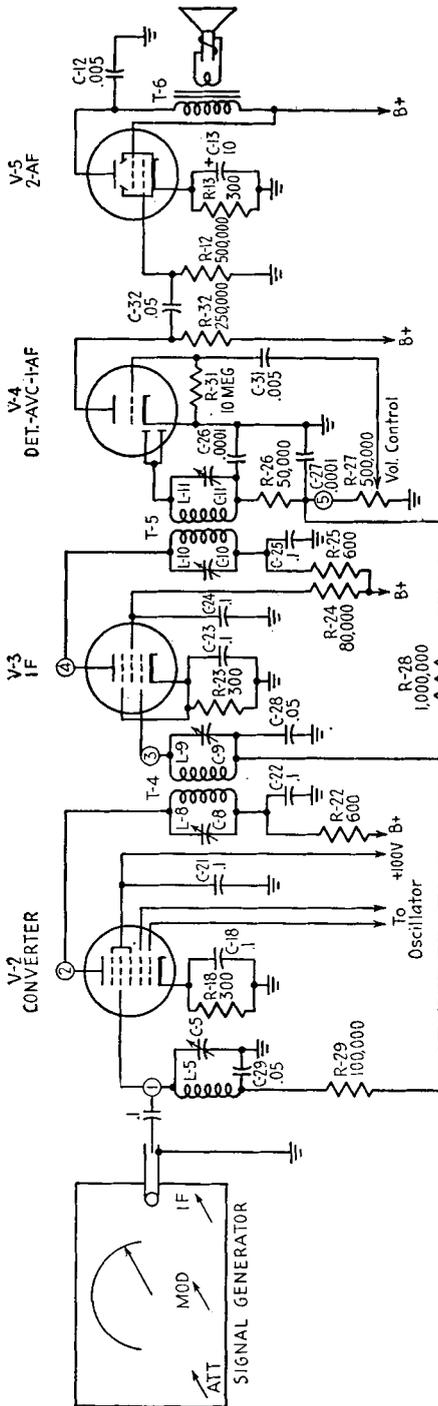

Fig. 13-22. Signal check for locating trouble in an IF amplifier.
The test oscillator, receiver, and output meter are connected as shown in Fig. 13-22. The signal generator is adjusted for modulated output on the IF band. The receiver is adjusted for maximum volume, minimum bass response, and maximum selectivity (if there is such a control); the RF portion is made inoperative by shorting the oscillator section of the gang tuning condenser. Let us assume normal operation of the audio amplifier, as proved by a normal response when an audio test signal is applied to point ⑤, the input of the AF amplifier, and no response or weak response when a modulated signal at the intermediate frequency is applied to point ①, the converter signal grid.
*Step 1.* The test lead from the signal generator is moved to point ②, the converter plate.